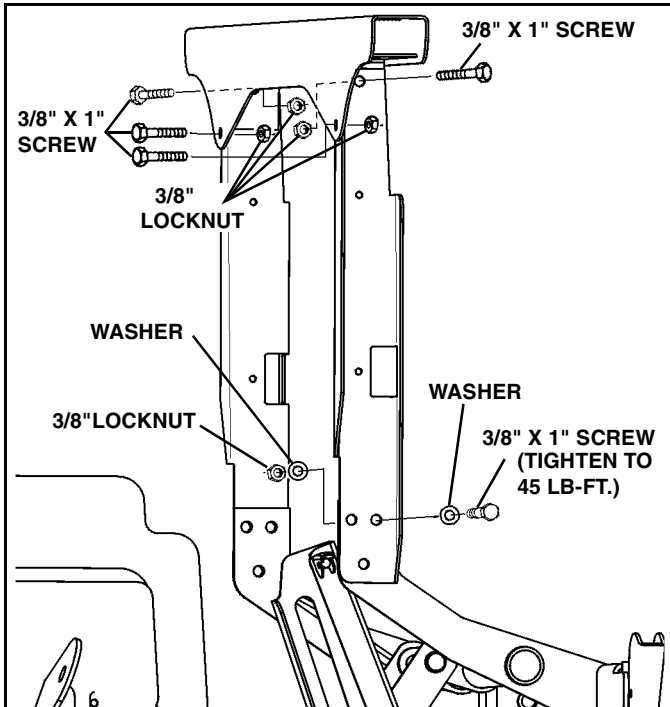

Figure 1-10
17. Remove left and right light support from power pack carton. Secure each light bar support to lift/light bar with (3) 3/8" x 1" screws, (6) washers and (3) lock nuts from the light bar parts bag part number 96106089. Do not tighten at this time. (See Figure 1-10).
18. Secure light bar to supports with (4) 3/8" x 1" screws and lock nuts. Align light bar supports to vertical position and tighten all light bar hardware. Tighten six lower screws to 45 lb-ft. (See Figure 1-10).